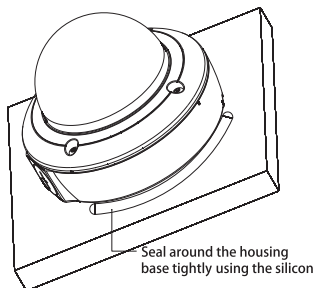

Figure 3
4. Close the housing using the loosen torx screws. **(Fig. 3)**